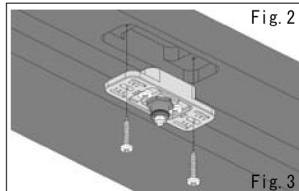

Fig. 2
- Insert the counter plate in the cutout made in the frame and secure using screws 3.5x15 (Fig. 2).